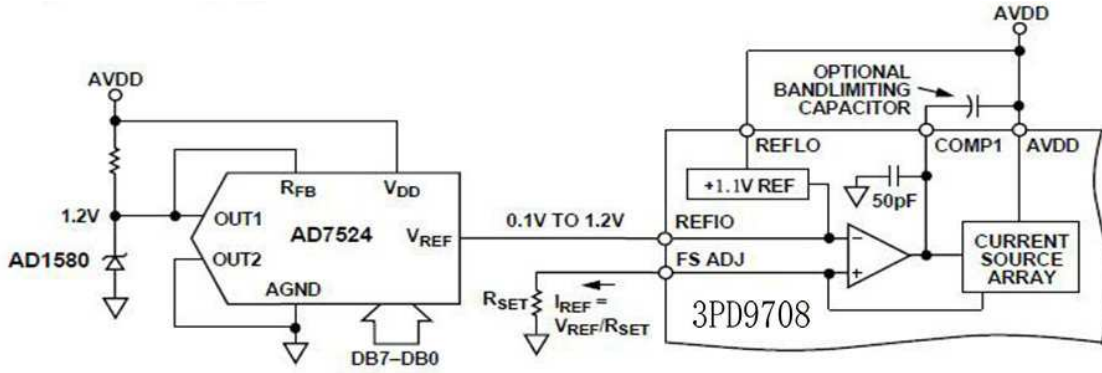

Figure 14. Single-Supply Gain Control Circuit
I_{REF} can be varied for a fixed R_{SET} by disabling the internal reference and varying the common-mode voltage over its compliance range of 1.25 V to 0.10 V. REFIO can be driven by a single-supply amplifier or DAC, thus allowing I_{REF} to be varied for a fixed R_{SET} . Since the input impedance of REFIO is approximately 1 MW, a simple R-2R ladder DAC configured in the voltage mode topology may be used to control the gain. This circuit is shown in Figure 14 using the AD7524 and an external 1.2 V reference, the AD1580. Note another 3PD9708(E) could also be used as the gain control DAC since it can also provide a programmable unipolar output up to 1.2 V.